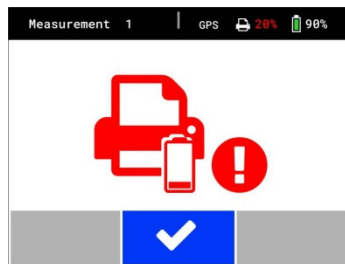

Figure 36
**The battery pack of the printer should be recharged as quickly as possible, when state of charge is 15% or less or in case the note on the left (Figure 36) appears on the screen of settlement measuring instrument.**